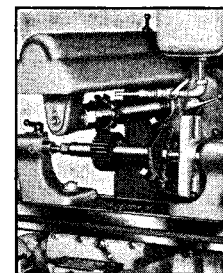
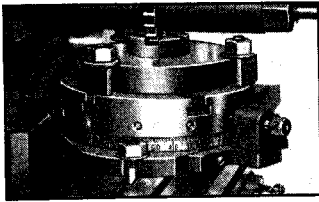
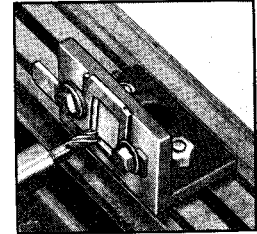

Fig. 16
Fig. 20
Fig. 24
8. GEAR CUTTING:—For gear cutting operations (see fig. 16), formed gear cutters are used. The shape of the cutter teeth, of course, depend upon the pitch of the teeth which are going to be cut. The index centers attachment is recommended for this milling operation. See catalog.
The following attachments are also available: Index Centers, used for splining, fluting, gear cutting and squaring shafts (see figs. 16 and 21); Rotary Index Table, for angular indexing and spacing (see fig. 20); and Angle Plate, which holds work which cannot be gripped in the vise or bolted to the table (see fig. 24.)